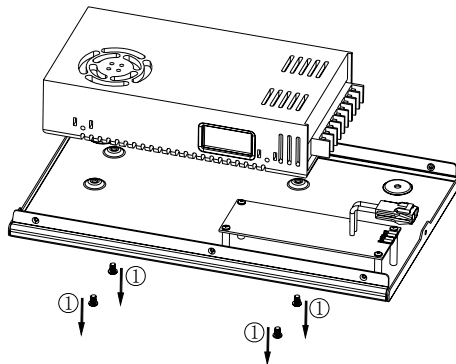

Figure 9
1. Remove the four screws (M4.0X6.0) that secure the switch power using a screwdriver, to remove the switch power ①, shown as Figure 9.